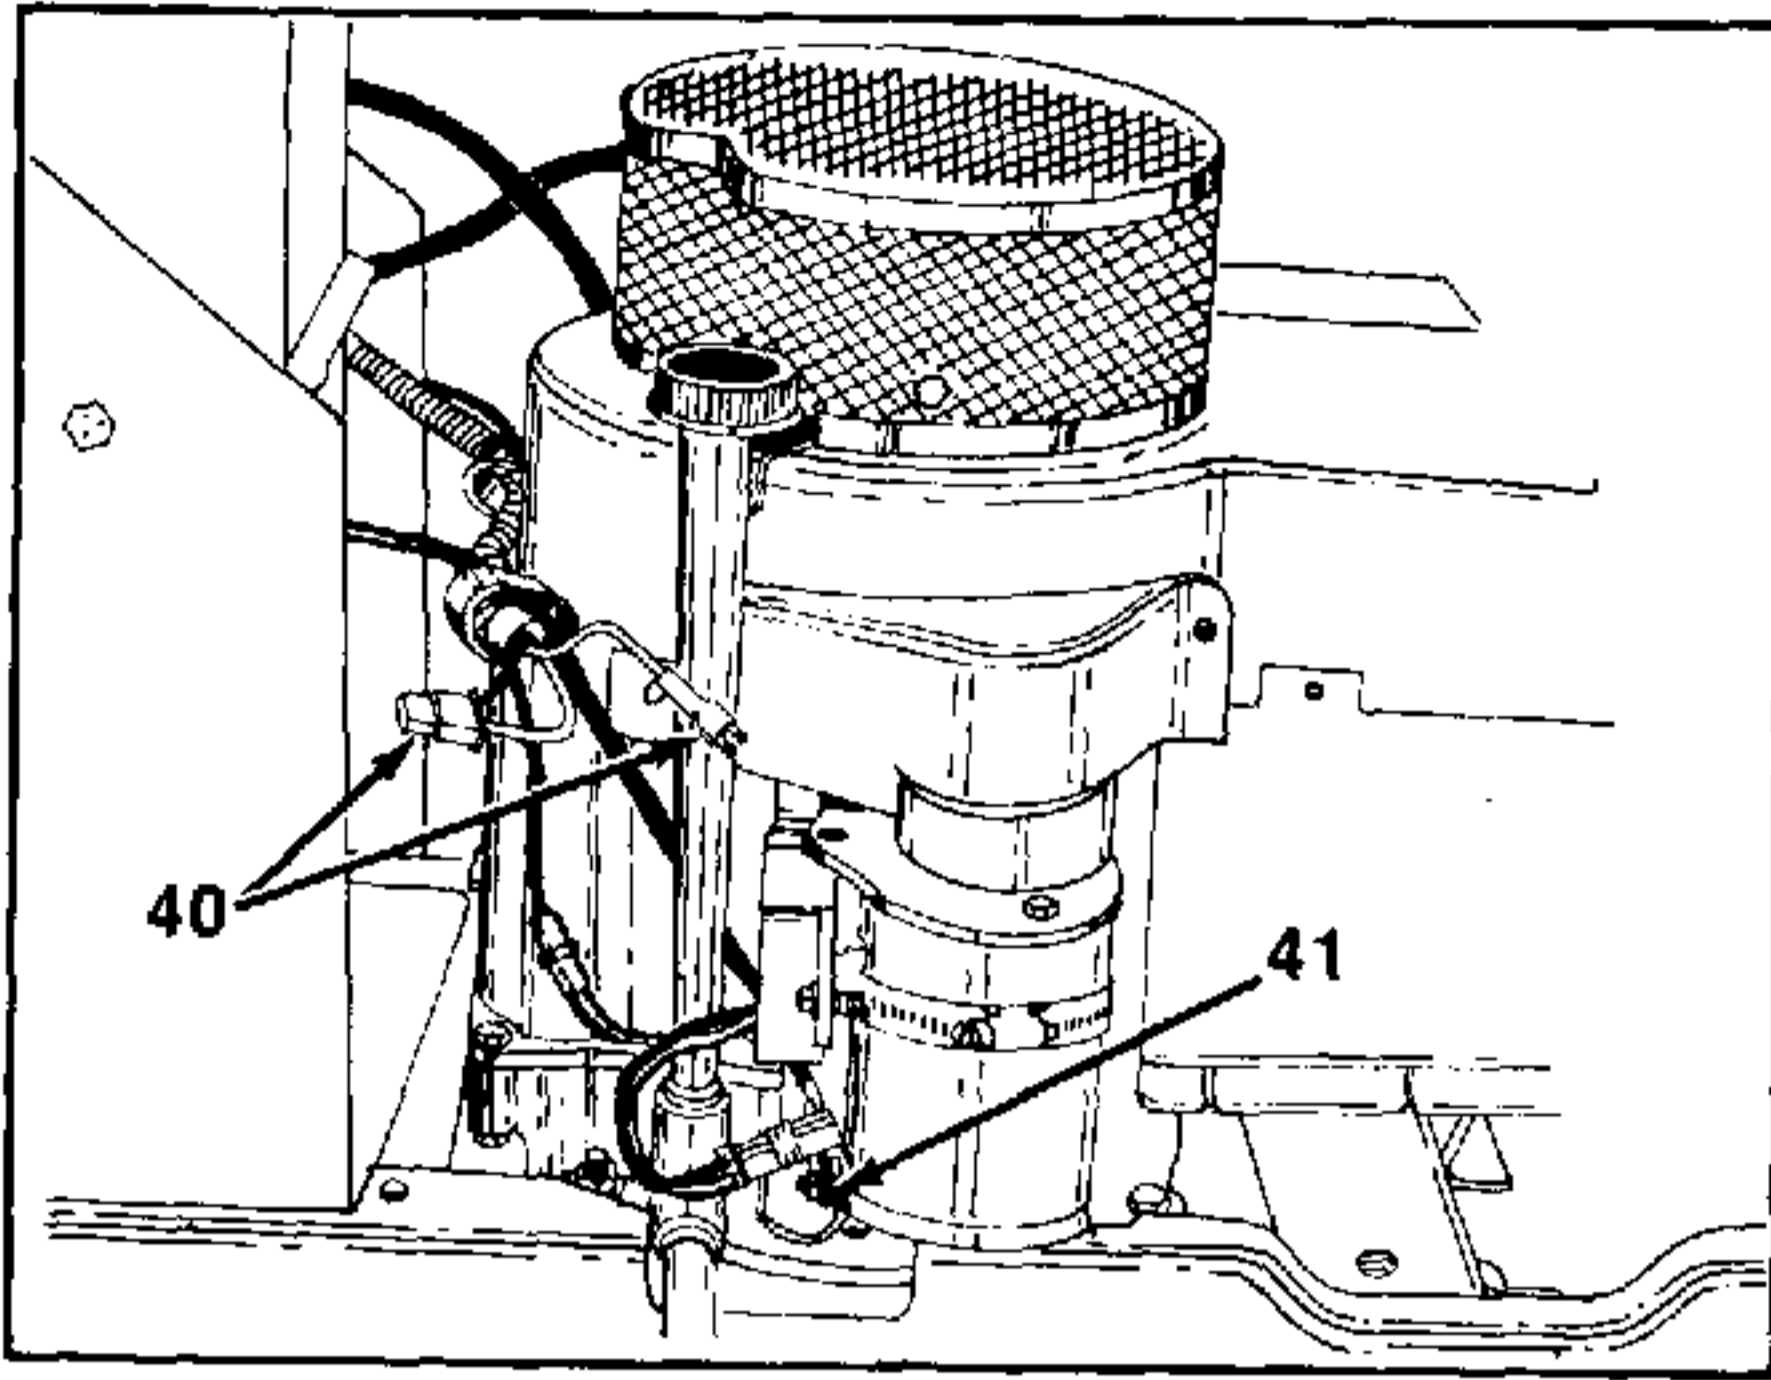

FIGURE 10.
9. Disconnect the main harness connection (Ref. 40) and starter cable (Ref. 41) at engine. See figure 10.